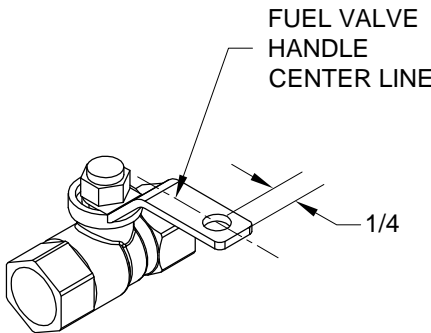

FIGURE 4: DRILLING THE FUEL VALVE 4161089 HANDLE
Step 4: Drill 1/4 the Fuel Valve 4161089 handle per the dimensions given in Figure 4.